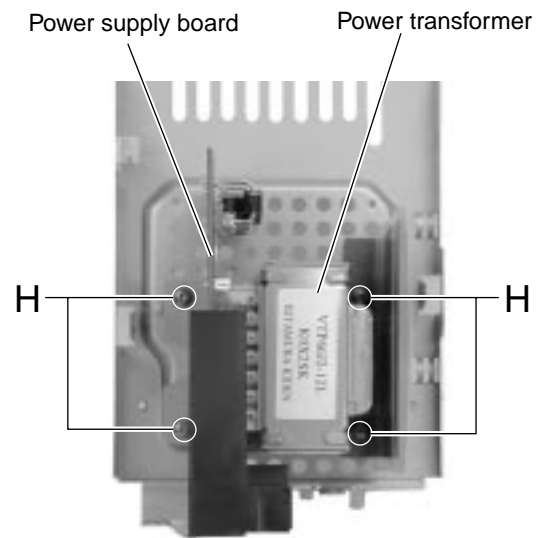

Fig. 15
■Removing the power transformer and power supply board (See Fig. 15 and 16)